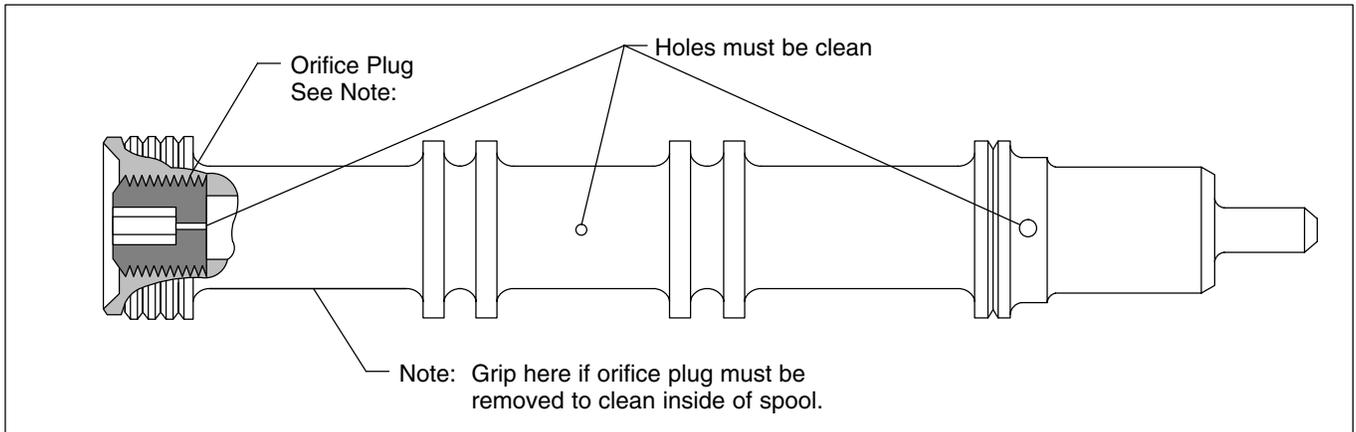

Figure 5. Spool Subassembly
1. Make sure that the 0.020 hole in the side of the spool (33) and the 0.030 hole in the orifice plug which is screwed in the end of the spool are completely open. (See Figure 5.) The orifice plug in the end of the spool may have to be removed to clean out contaminants that have gathered inside the spool.